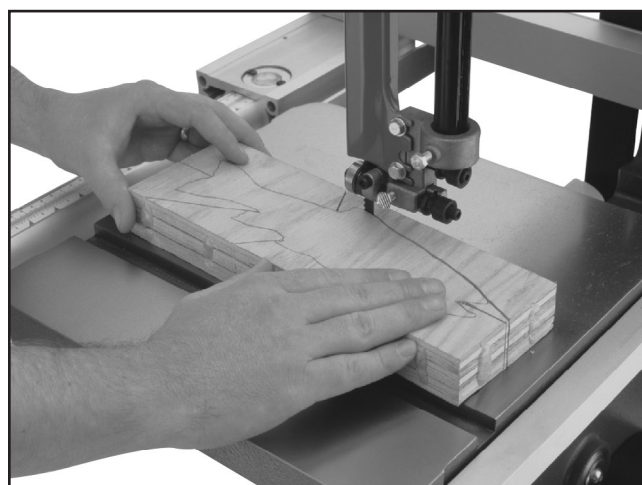

Figure 32. Typical stacked cut.
5. Cut the stack of pieces as though you were cutting a single piece. Follow your layout line with the blade kerf on the waste side of your line as shown in **Figure 32**.